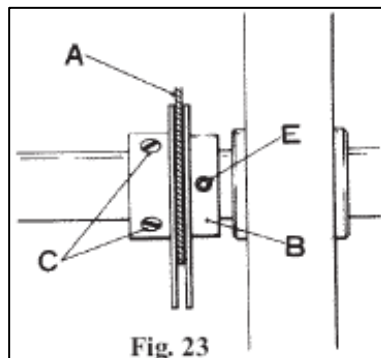

Fig. 23
1) Apply Cast-Off Plate (A) to Collar (B) to make it come to the center of groove on Loper Thread Take-Up (D) (Fig. 23). Then adjust the lateral position of the Take-Up (D) loosening Screw (C).